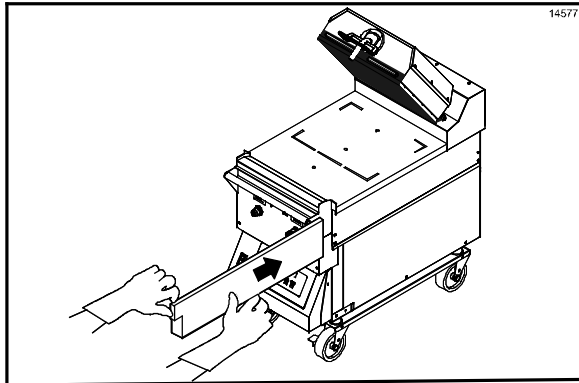

Figure 41
33. Re-install the grease pans. (See Figure 41.)